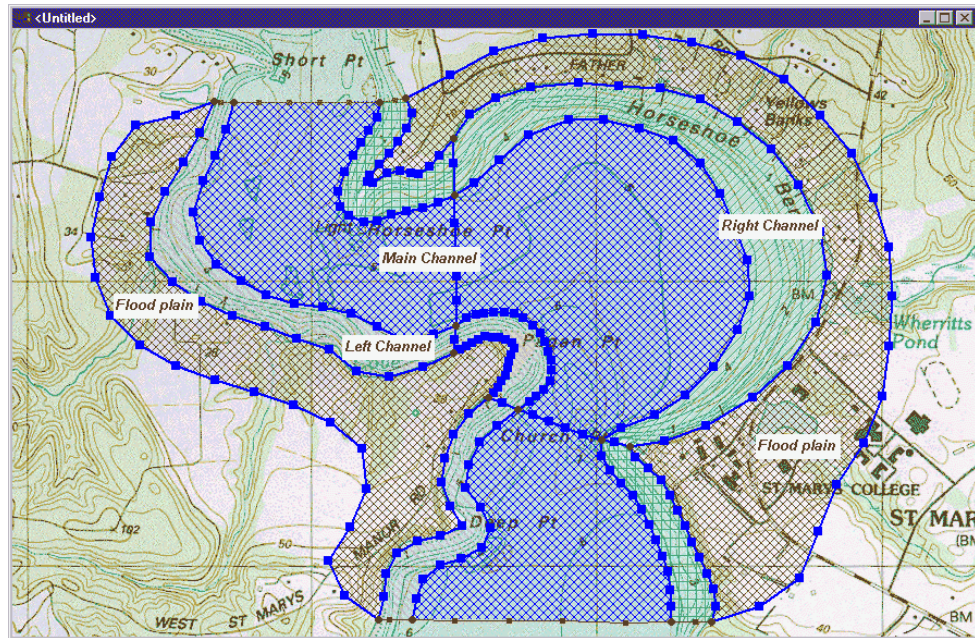

Figure 2-9 Polygons with defined material types.
3. Assign material properties shown on Figure 2-9 to all the polygons. Holding the SHIFT key, select all the polygons with similar material properties, then select *Feature Objects / Attributes* or double click on a polygon after the last polygon has been selected. In the *Feature Polygon Attributes* dialog select the materials button and assign the material type.